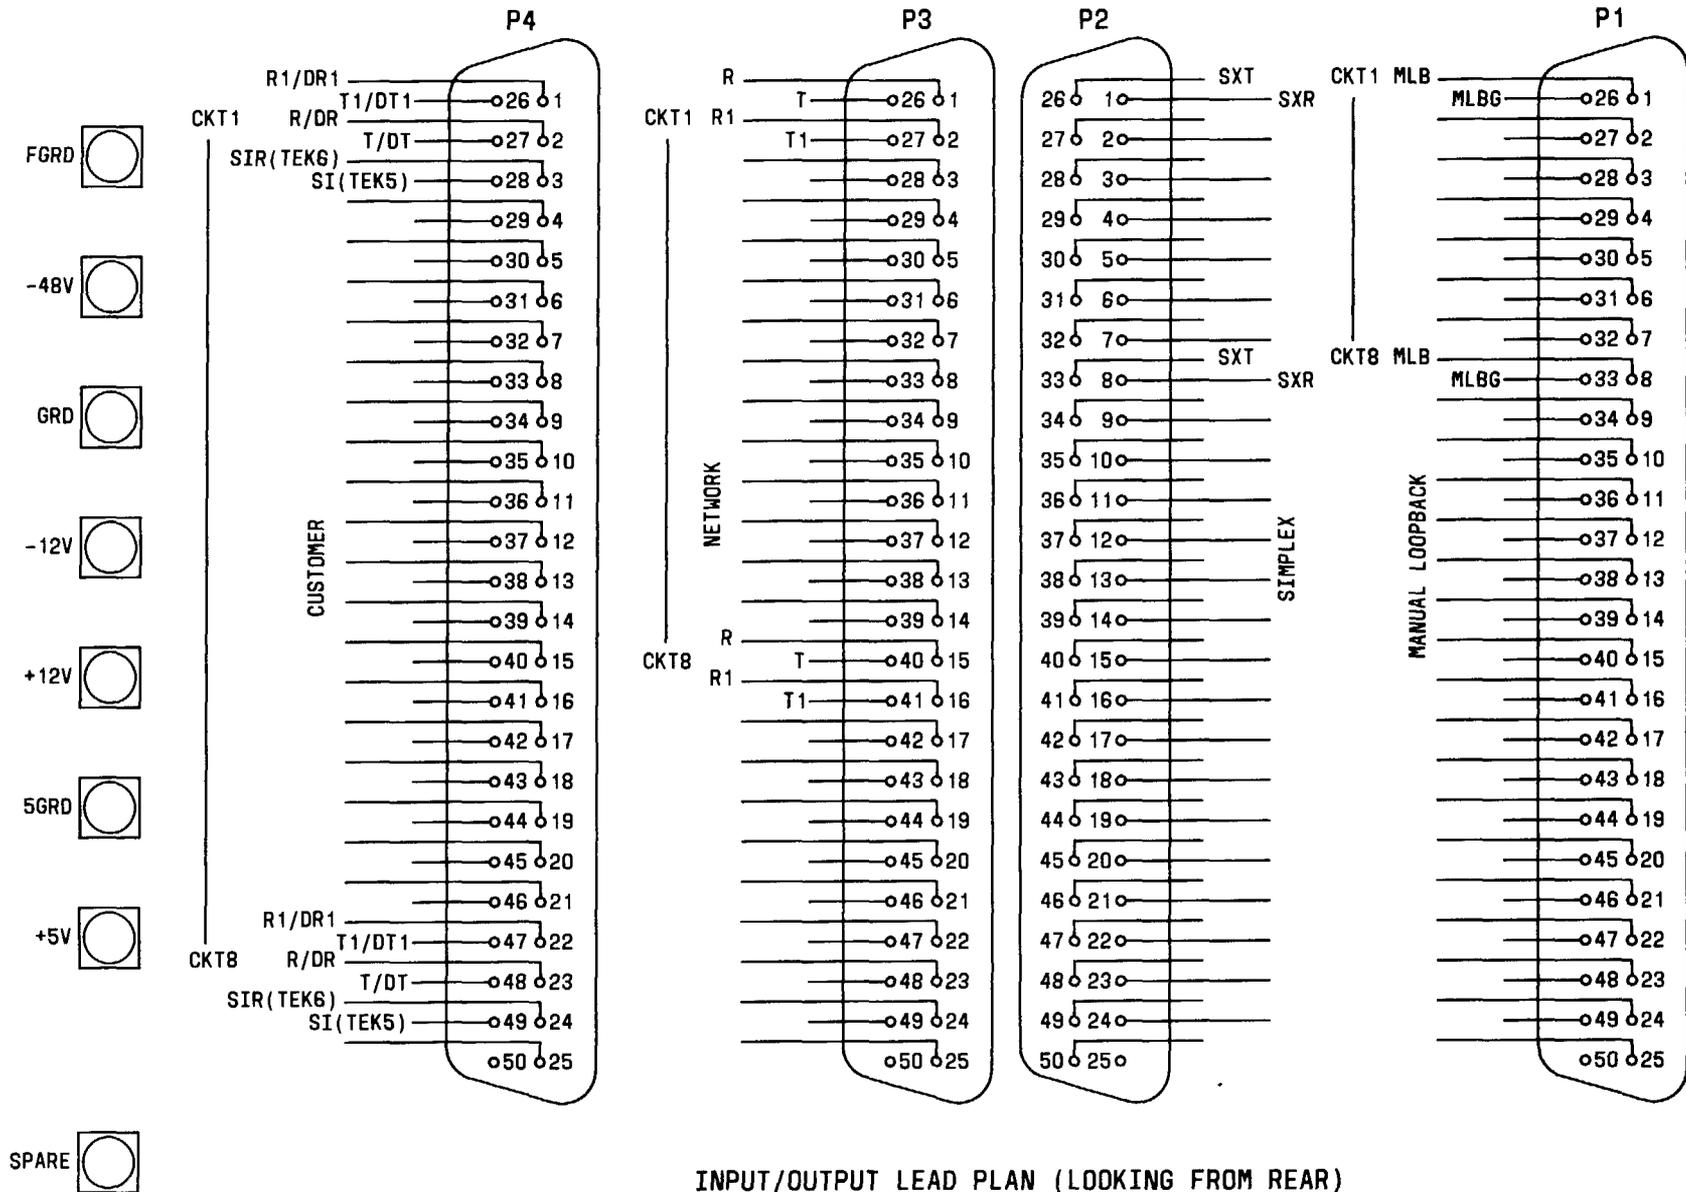
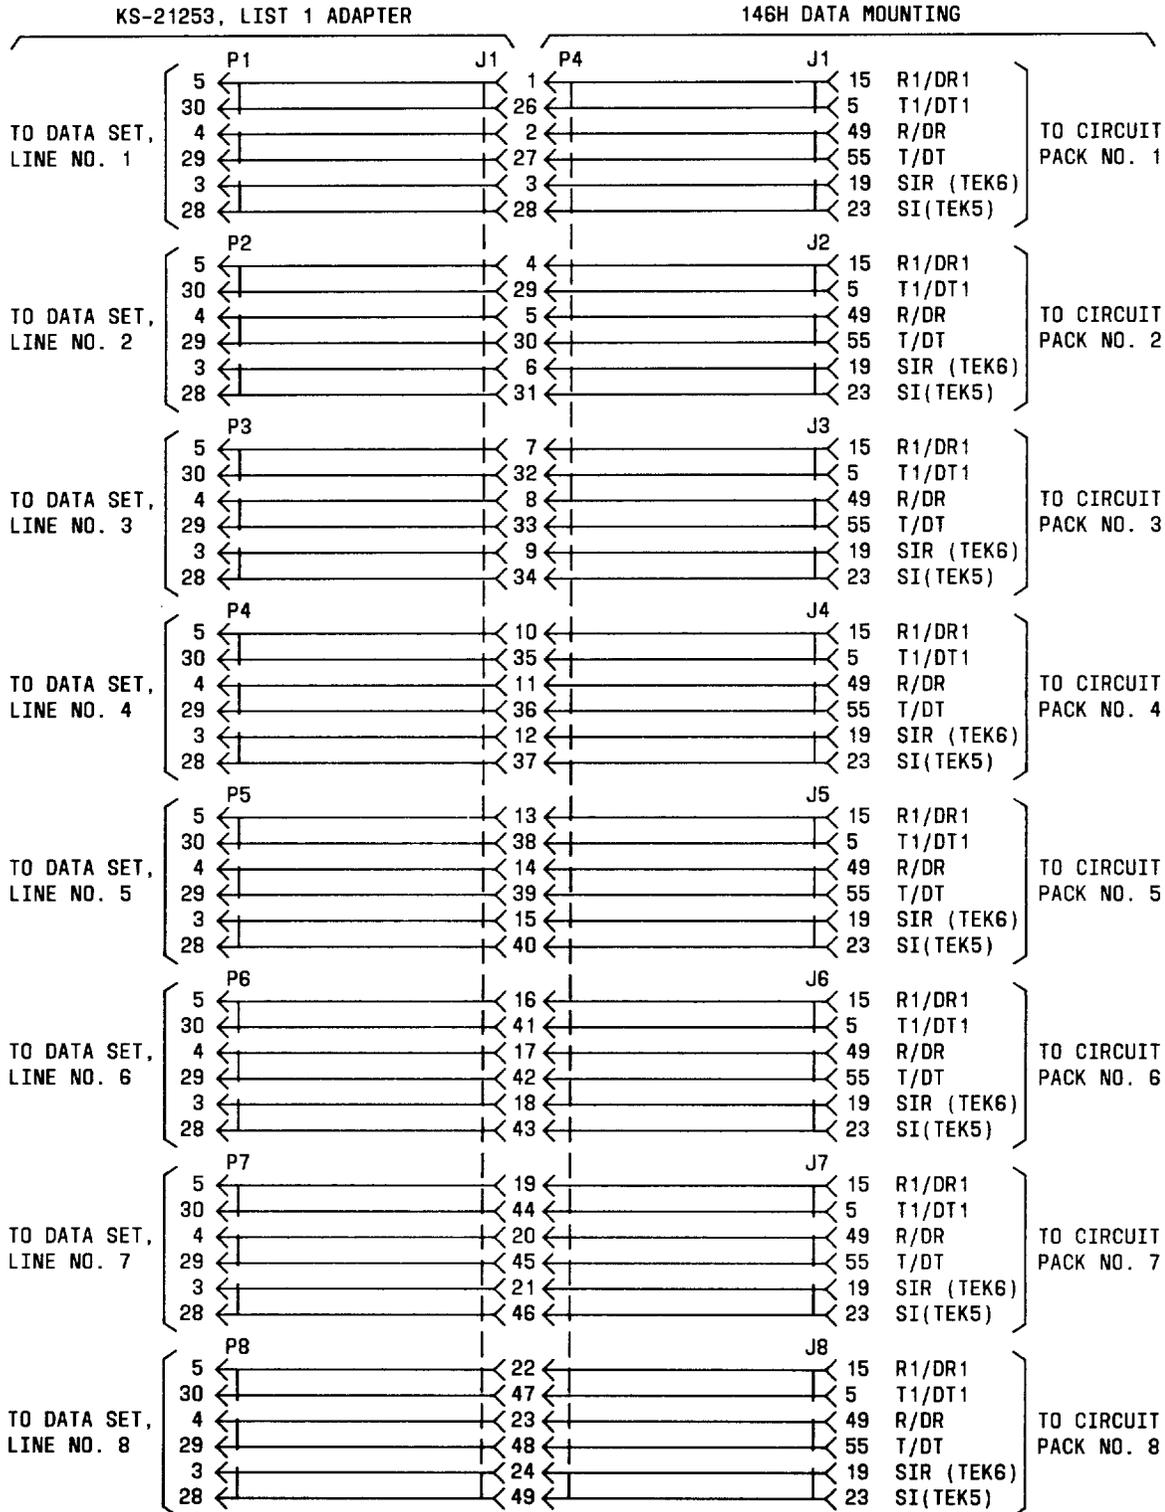

Fig. 3— 146H Backplane Lead Plan Decal
Fig. 7—Lead Plan for KS-21253, List 1 Adapter
4.14 Customer equipment connections for circuits 1 through 8 are made to 50-position miniature ribbon plug P4 on the unit backplane. Figure 3 shows the backplane connector lead plans and Table C provides an explanation of the customer interface lead functions. As an alternative, the KS-21253, List 1 adapter can be used to provide individual customer interface connections to each circuit pack. When the adapter is used, connector J1 of the adapter is connected to plug P4 on the unit backplane and customer equipment connections are made using 50-position miniature ribbon plugs P1 through P8 on the adapter. Figure 7 shows the lead plan for the KS-21253, List 1 adapter.
4.15 Network connections are made to the 146H mounting through 50-position miniature ribbon plugs P3, P2, and P1 on the unit backplane. The network transmission leads are connected to plug P3, simplex lead connections are made to plug P2, and access to the manual loopback leads (MLB and MLBG) is provided on plug P1. Figure 3 shows the
Note: The 50-position connector pin assignments are shown in Fig. 3.
Note: The location of the power and ground terminals and the 50-position connector pin assignments are shown in Fig. 3.